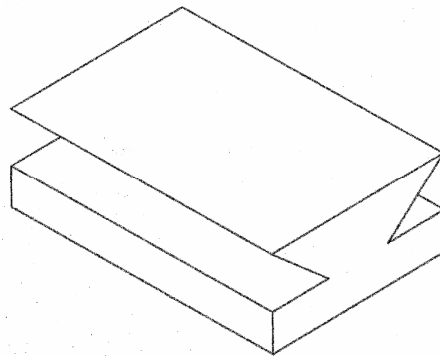

FIGURE 2
4.2 FIGURE 2 below shows the profile of a flat plate that needs to be milled. Only the top and the side profiles need to be machined.
6.4.2 The following table provides part of a simple CNC program that was used to machine the work piece shown in Figure 2. The absolute dimensioning method is used.